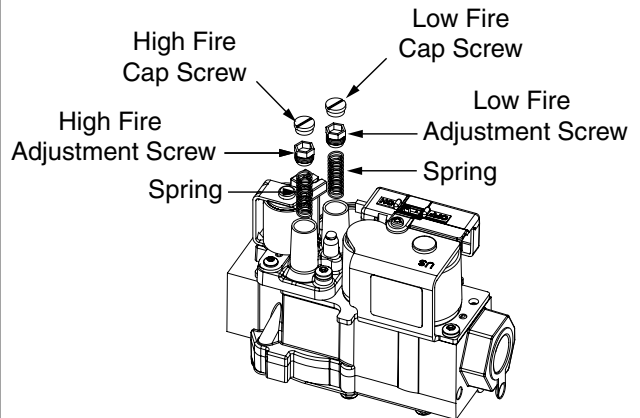

Figure 5. Pressure Regulator Spring & Adjustment Screw Removal
1. Remove the HIGH fire cap screw. See Figure 5.